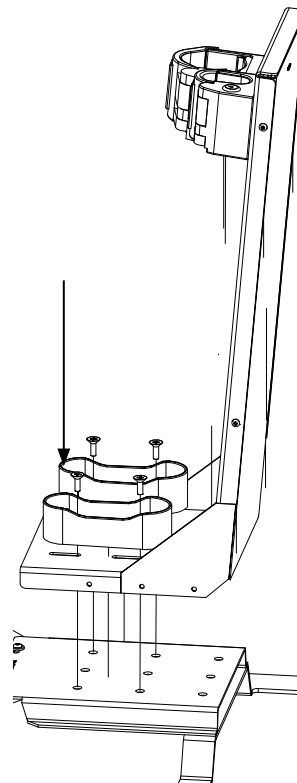

FIG. 5
B. Remove weapons from gun rack and install gun rack onto the base mount with 3X74 screws through the Butt Plate Holder as shown in Fig. 5. and tighten. Place weapons in the gun rack and check if any final adjustments are needed to properly fit weapons. If gun rack have charging brackets and trigger guards, then they should also be adjusted to ensure the weapon cannot be discharged.